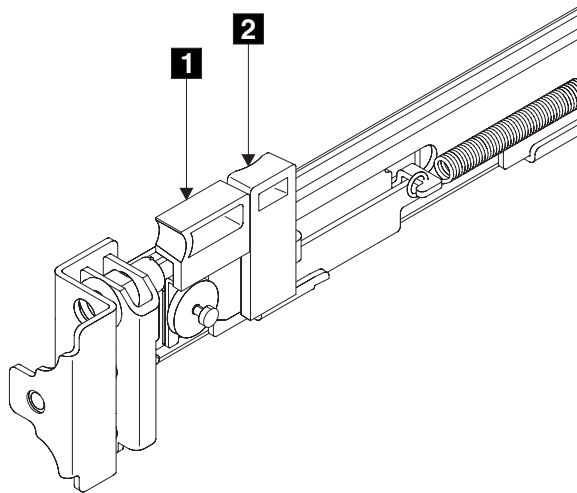

Figure 27. Retracting the latch lock carrier
4. Put your finger against the side of the latch lever **1**, and put your thumb against the front of the latch lock **2** (see Figure 27 on page 27).